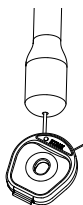
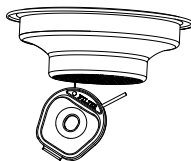

Fig. 9: Clean the Steam Wand (6) with thicker pin.
Fig. 10: Clean the Filters (13, 14) with a thinner pin.
The Cleaning Pin (17) is used for cleaning the Steam Wand and Filters. The thicker pin is for cleaning the Steam Wand (Fig. 9), and the thinner one is for cleaning the Filters (Fig. 10).